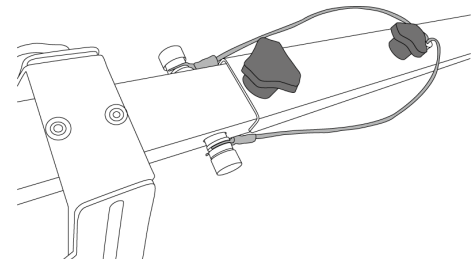

Fig. 2 Wire connection
2. Connect each of the built-in lead wires (red and black, one each) of the lower boom, with each of the color terminals located along the sides of the upper boom (red wire with red terminal, black wire with black terminal) to complete assembling the boom (see Fig. 2).